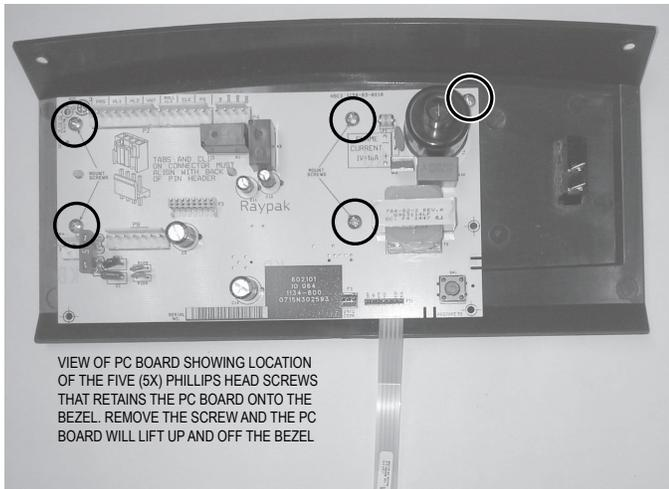

Figure 7. Remove PC Board Screws
10. Remove the five (5) screws that fasten the PC board to the Bezel (see **Figure 7**).